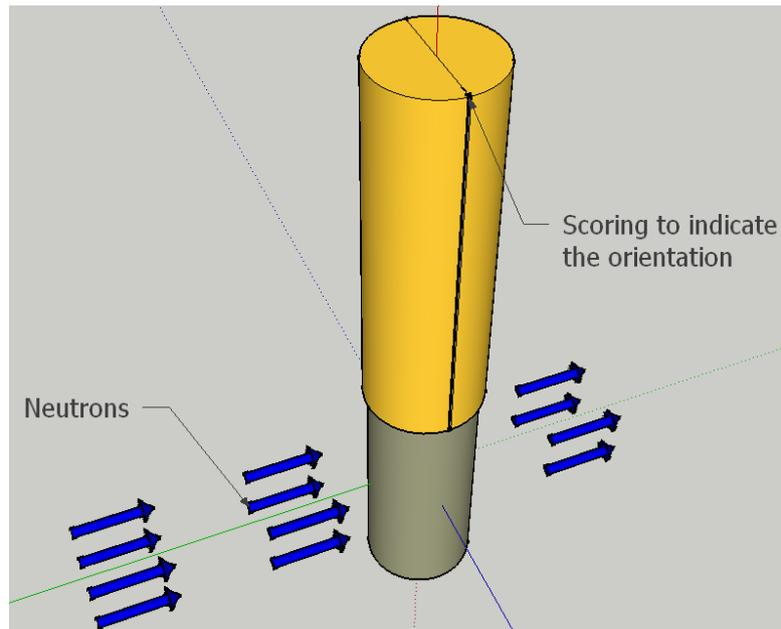

Figure 2-1. Diagram indicating the correct orientation of the Neutron Beam Monitor to the neutron flux.
The ISIS Neutron Beam Monitor can be quickly setup using the recommended high voltage (HV) of +650V. The monitor should be installed according to the wiring diagram shown in Figure 4-2. The monitor should be orientated with the metal score at a right angle to the neutron beam direction, shown in Figure 2-1 below.